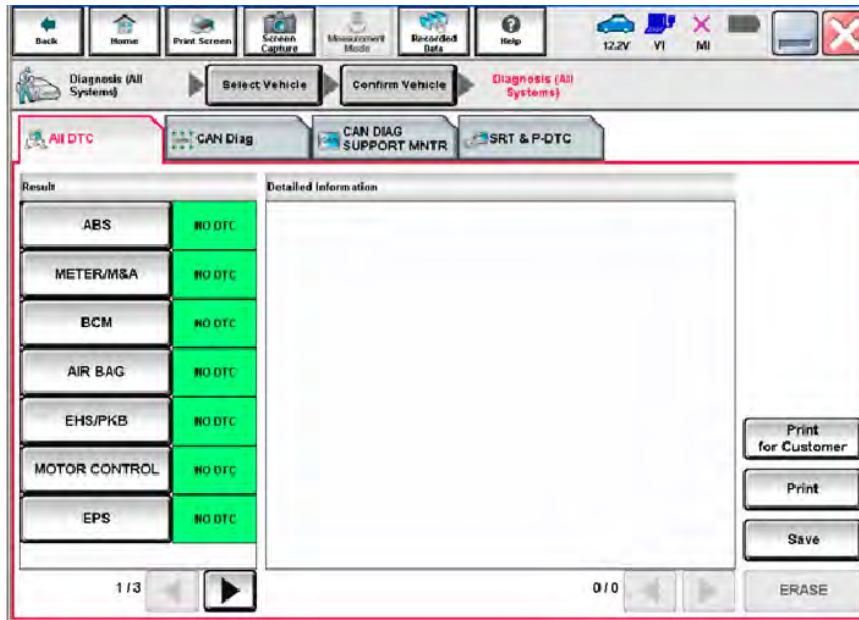

Figure 28
- All DTCs should now be clear (Figure 28).